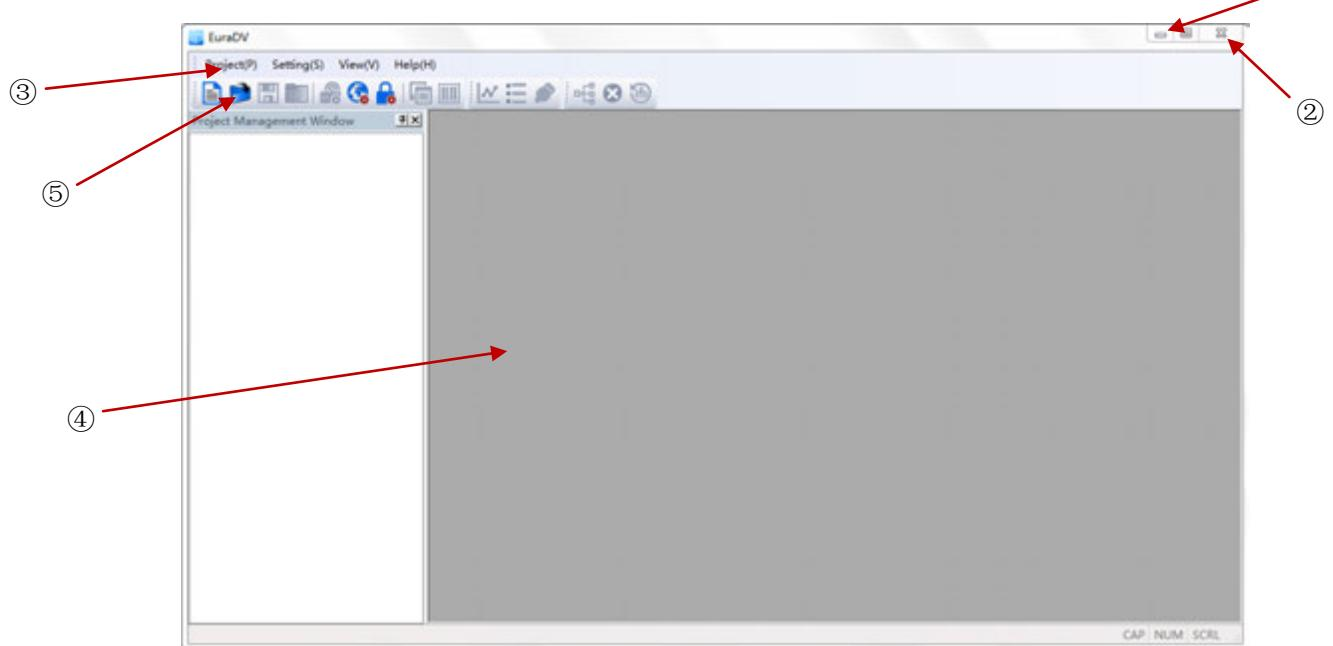

Fig 3-2 Main Interface
2. Language selection finished, click "OK" to access main interface of program (Fig 3-2);